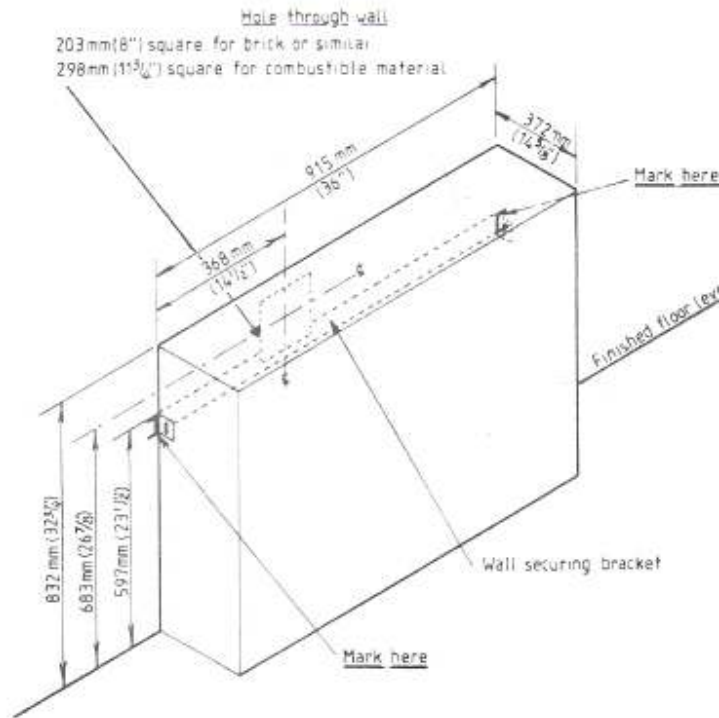

Fig. 2
- 7.1 Using the dimensions given in Fig. 2, mark the position for the 'hole through the wall'.
- 7.3 Place the heater against the wall in the correct position relative to the 'hole through the wall'. If there is a skirting board behind the heater position, mark it at each side of the heater. Make sure that the heater is level, if necessary, add packing under the feet. Mark onto the wall around the ends of the wall securing bracket (see Fig. 2).